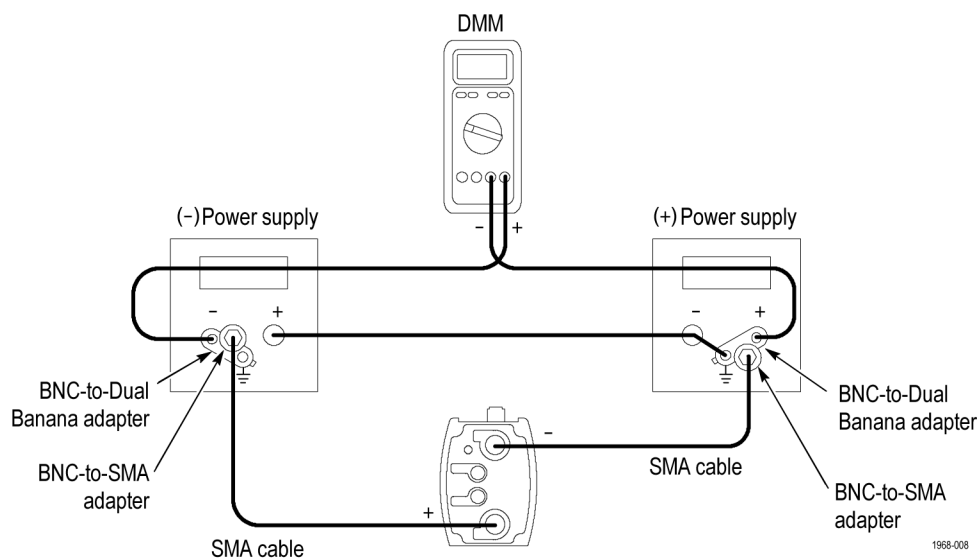

Figure 28: Reverse the power supply polarity on the probe inputs
6. Connect the BNC-to-dual banana plug adapters into the opposite power supplies to reverse the voltage polarity to the probe inputs. (See Figure 28 on page 41.)